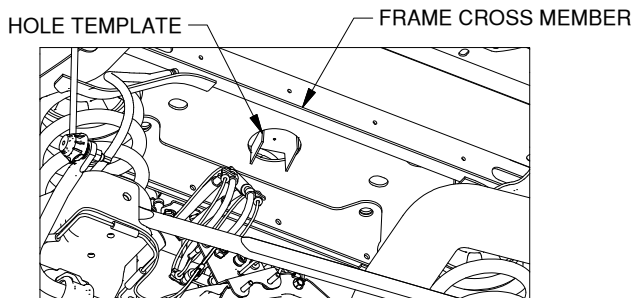

Figure A6: looking under truck bed towards cab.
8. **Mark the location of the 3-1/2" hole.** Insert the hole template into the center hole of the frame cross member as shown in Figure A6. Push the template upward until it is flush against the bottom of the bed floor. Make a mark on the truck bed floor through the hole in the hole template using a pencil, marker, or other tool. Once the center point is marked, remove the template. Use a center punch to place an indentation in the truck bed at the center of the mark. Using a drill and a 1/4" bit, drill a pilot hole through the bed in this location.